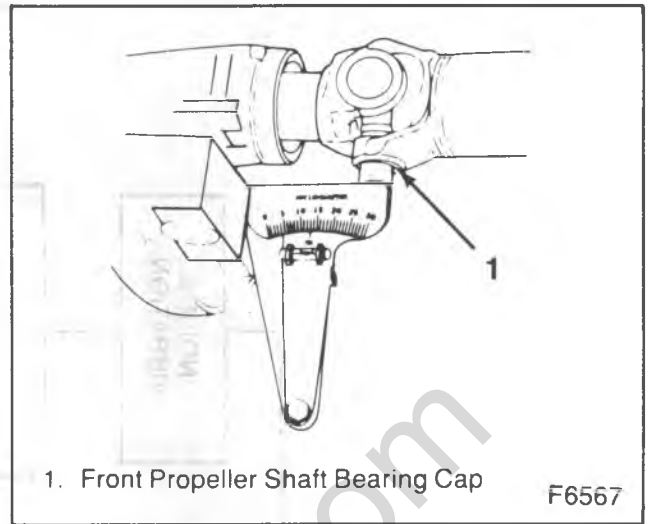

Figure 22—Measuring Front U-Joint Working Angle
1. Place inclinometer on front propeller shaft bearing cap, (figure 22). Center bubble in sight and record measurement.